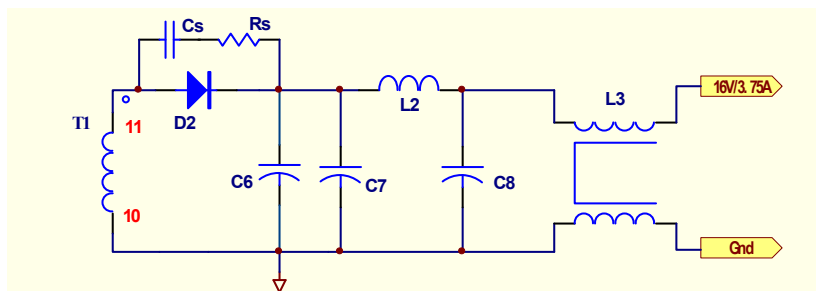

Figure 17 Output rectifier snubber and output common mode choke
3. Add snubber circuit to the output rectifier : Most of the radiated EMI noise comes out from the output of the system esp. for a system with output cable. Adding snubber circuit (Rs and Cs) to the output rectifier is a more direct way to suppress those EMI noise (refer to Figure 17).
4. Add output common mode choke (L3) to the output : similar to item 3, adding the output common mode choke can help to reduce the noise of the radiated EMI emission (refer to Figure 17).